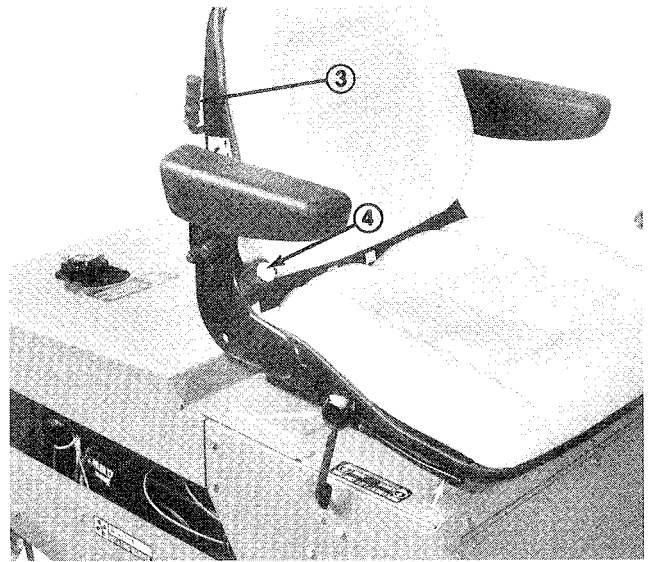

Figure 12
**Implement Lift Lever (Fig. 12)** The hydraulic lift lever has three positions: LOWER, RAISE, and NEUTRAL. To lower cutting unit to the ground, move lift lever forward. When lowering cutting unit, make sure hydraulic cylinder is completely extended before releasing lift lever. To raise cutting unit, pull lift lever rearward to the RAISE position.
**Deluxe Seat Adjustments (Fig. 12)** — Fore and Aft Adjustment — Move lever on right side of seat outward, slide seat to desired position and release lever to lock seat into position.